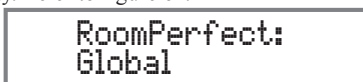

Figure 62
2. Press the LEVEL +/- Push-button until “RoomPerfect Global” appears on the Front Panel Display. Refer to figure 62.